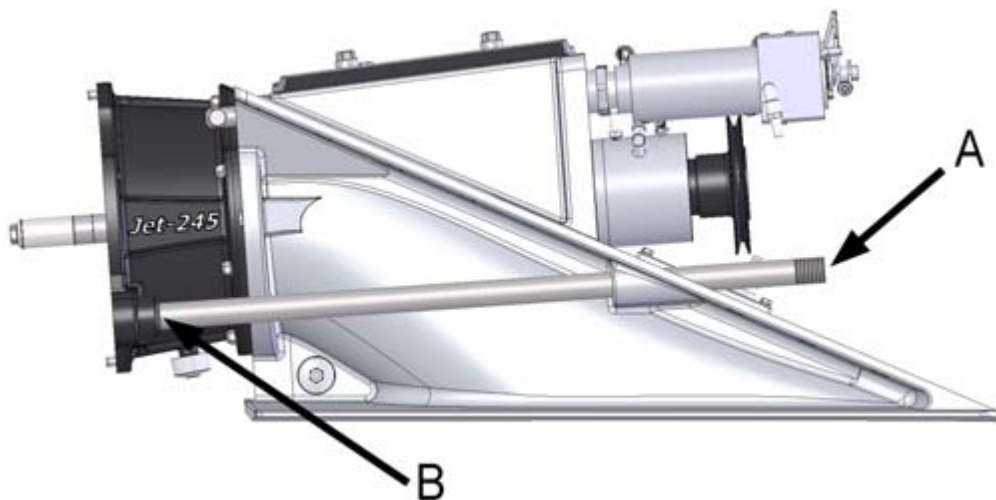

Figure 44. Raw water line
1. Open the connection to the raw water line at the pipe end on the engine room side (figure 44, point A).
2. Screw the raw water pipe to disconnect it from the rear end (figure 44, point B). However, you can leave it attached to the hull.